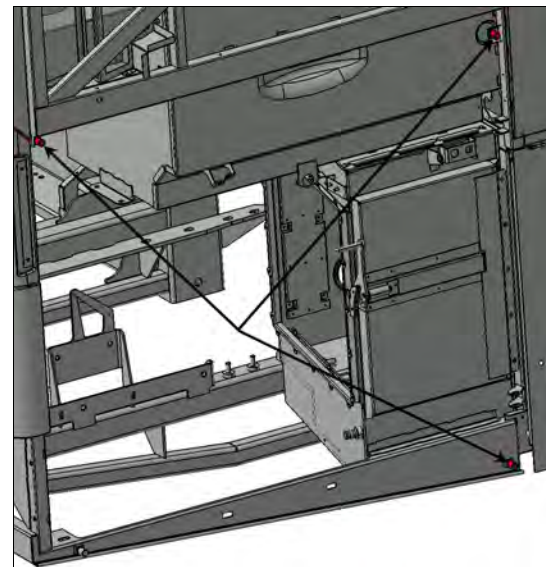
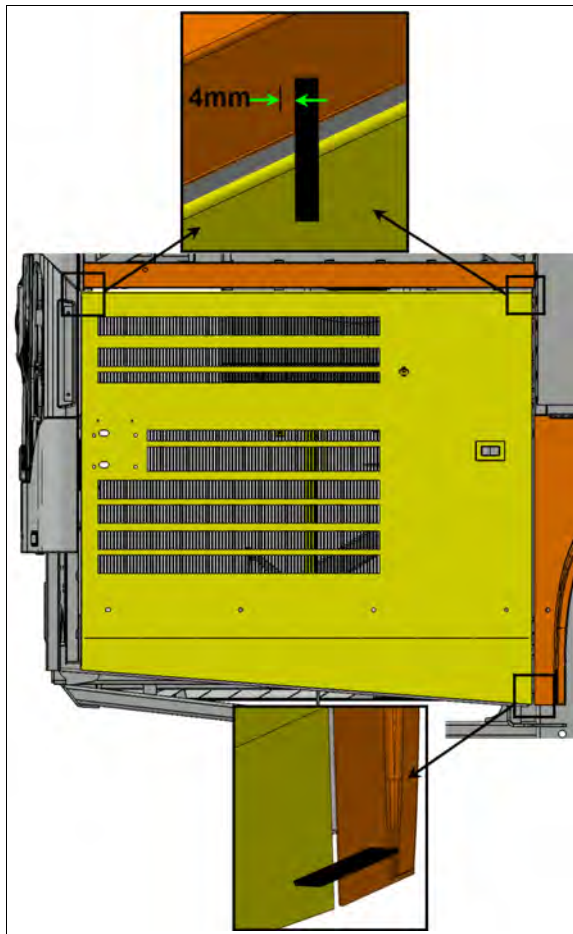

FIGURE 71
FIGURE 72
19. Screw in or out the two upper stoppers so that the upper part of the door exceeds the horizontal member by $5/32"$ to $3/16"$ (4mm to 5mm) (see FIGURE 71 & FIGURE 72).